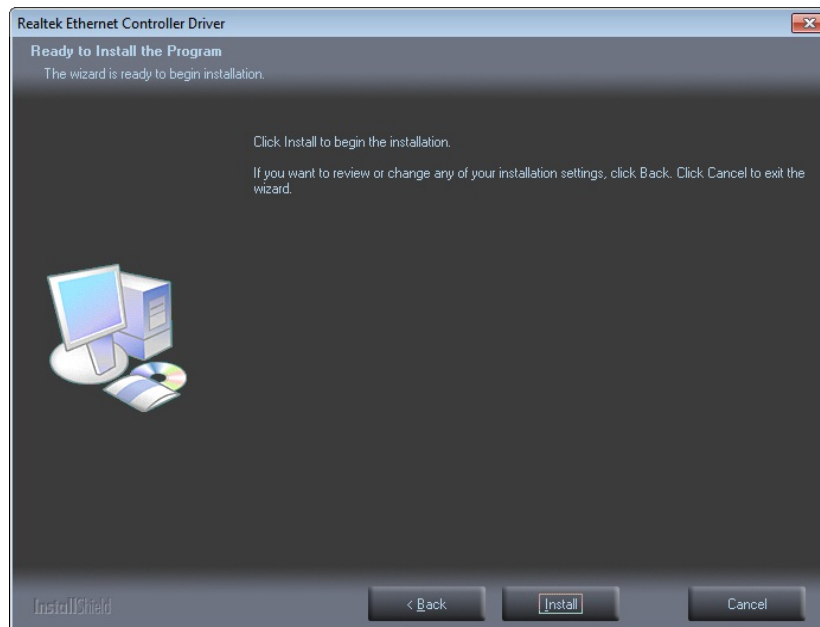

Figure 6-14: LAN Driver Installation
Step 7: The **Ready to Install** screen in **Figure 6-14** appears.